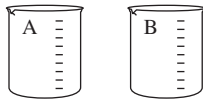

Figure P7.21 Mixture of two saline solutions.
- 7-21.** A chemical engineer is to combine two liquids of differing saline concentrations as shown in Fig. P7.21. If Solution A is 75% saline and Solution B is 25% saline, the combination of both solutions such